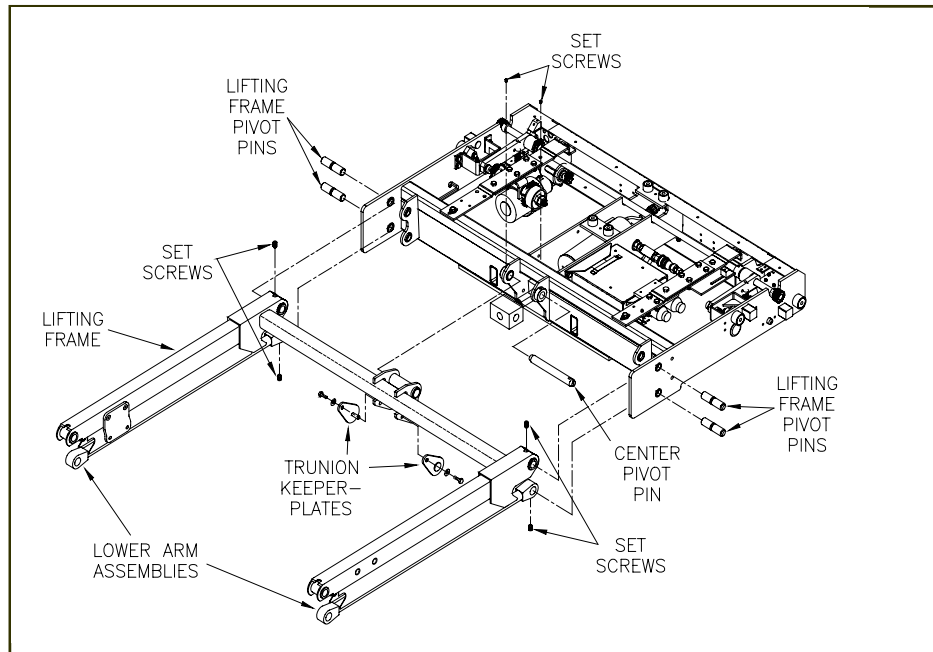

FIGURE 4-14: LIFTING FRAME COMPONENTS
- c. Refer to **Figure 4-14**. Remove four setscrews securing lifting frame pivot pins. Remove two setscrews securing center pivot pin.